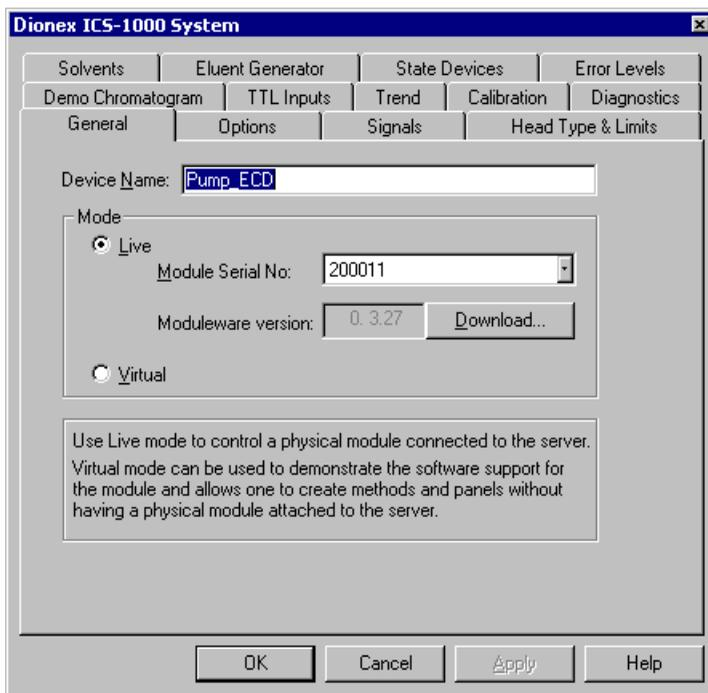

Figure 14. ICS-1000 System Properties
3. The ICS-1000 System dialog box opens (see Figure 14). The **General** page shows the Device Name (**Pump_ECD**), the Mode (**Live**), and the Module Serial No.